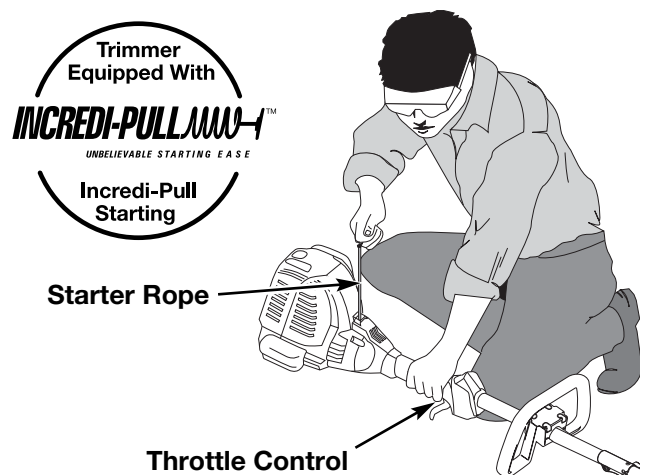

Fig. 8
WARNING: Avoid accidental starting. Make sure you are in the starting position when pulling the starter rope (Fig. 8). To avoid serious injury, the operator and unit must be in a stable position while starting.
4. With the unit in the starting position (Fig. 8), **do not squeeze the throttle control**. Pull the starter rope out a short distance, until you feel some resistance. This is usually around 2-4 inches. Pull the starter rope out with a **controlled and steady motion**. Repeat this 5 times. The engine should start.